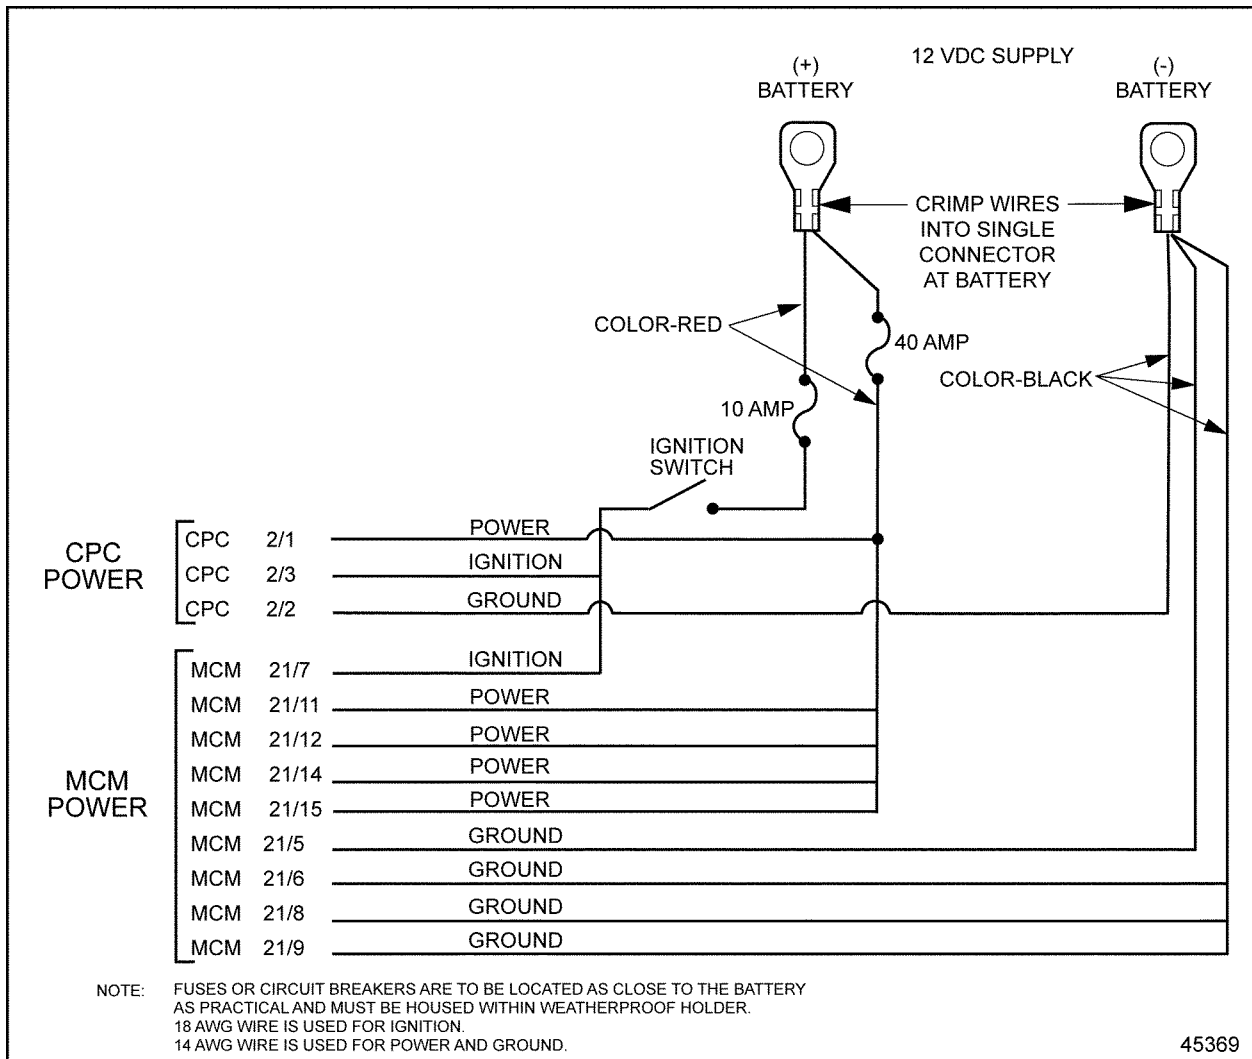

Figure 12-1 Power Wiring
1. Measure the resistance of the individual wires in the ground circuit (MCM 21/5, 21/6, 21/8, 21/9 and CPC 2/2). See Figure 12-1.
2. Measure the resistance of the individual wires in the power circuit (MCM 21/11, 21/12, 21/14, 21/15 and CPC 2/1) with the engine running and battery voltage greater than 12.5 V. See Figure 12-1.
3. Measure the current drop of the individual wires in the ground circuit (MCM 21/5, 21/6, 21/8, 21/9 and CPC 2/2). See Figure 12-1.
4. Measure the current drop of the individual wires in the power circuit (MCM 21/11, 21/12, 21/14, 21/15 and CPC 2/1). See Figure 12-1